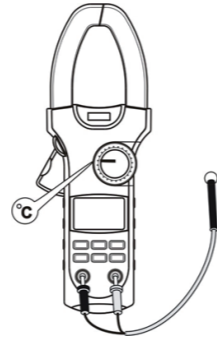

Figure 9
**G. Measuring Temperature** (UT208A Only, See Figure 9)